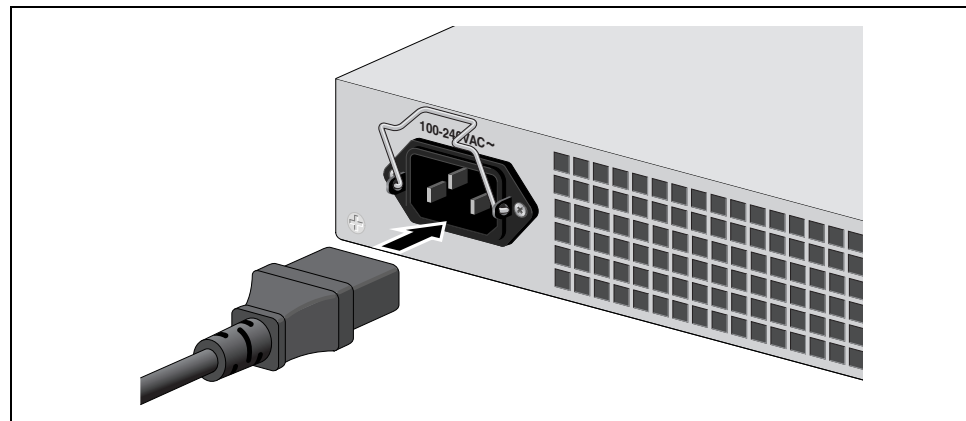

Figure 27. Connecting the AC Power Cord
2. Plug the power cord into the AC power connector on the back panel of the unit (see Figure 27).